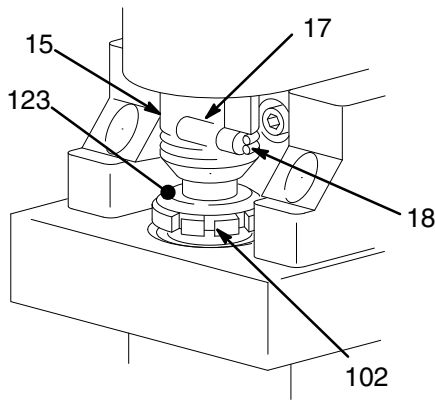

Fig. 20
- a. Remove the pump connecting rod pin (17). See Fig. 20, page 23.
11. **Break in the brushes.** Operate the sprayer for at least one hour with no load. Install the pump connecting rod pin. See Fig. 20, page 23.
Be sure the retaining spring (18) is firmly in the groove all the way around, to prevent the pin (17) from working loose due to vibration. See Fig. 20.